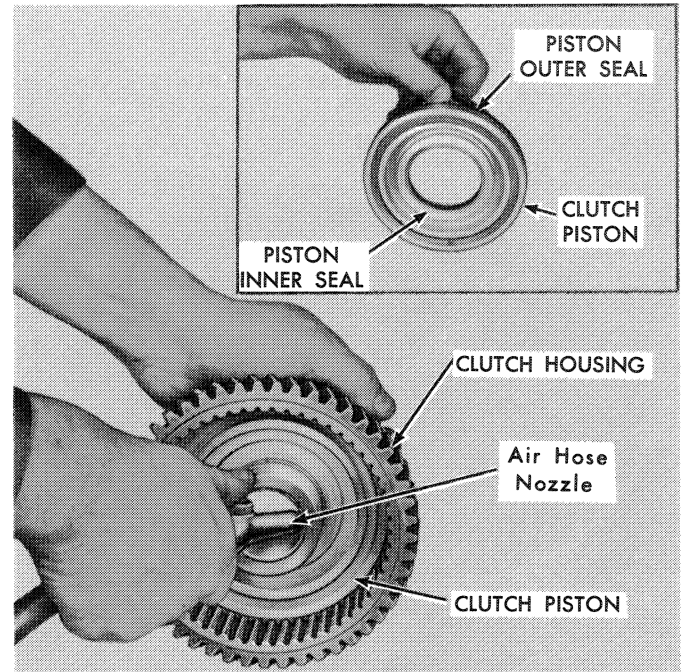

Figure 86
4. Place an air hose nozzle in the hole in the hub, as shown in Figure 86, and force the piston out of the clutch housing with air pressure.
5. Remove the piston inner and outer seals, shown in the Insert, Figure 86.
6. Remove the piston by applying compressed air to the oil supply port in the clutch housing. See Figure 86.